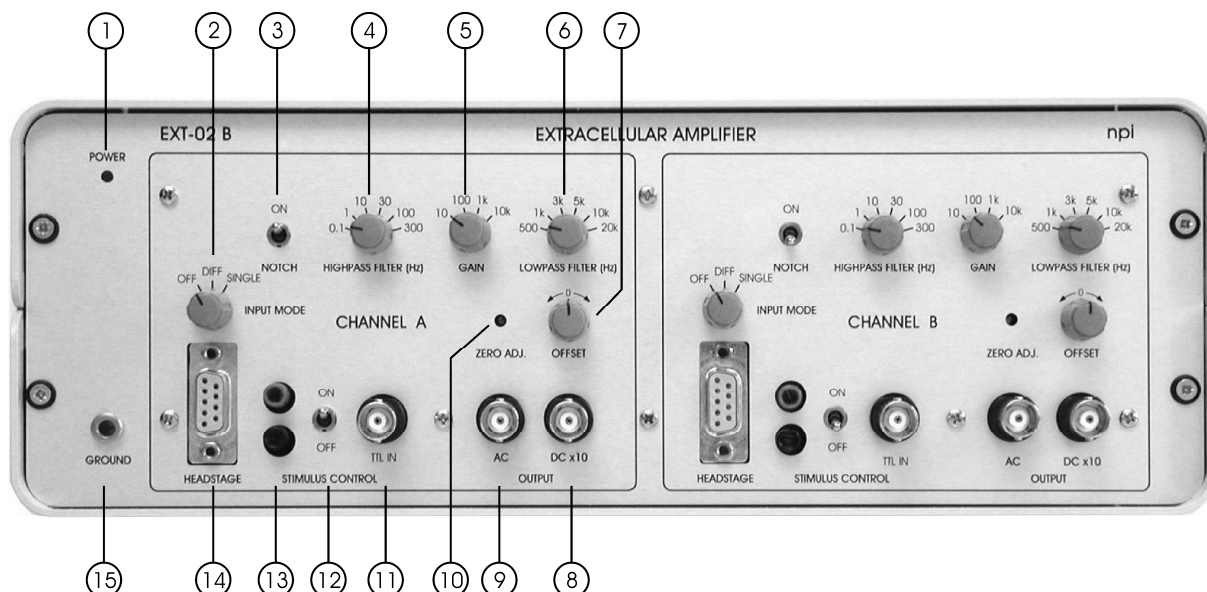
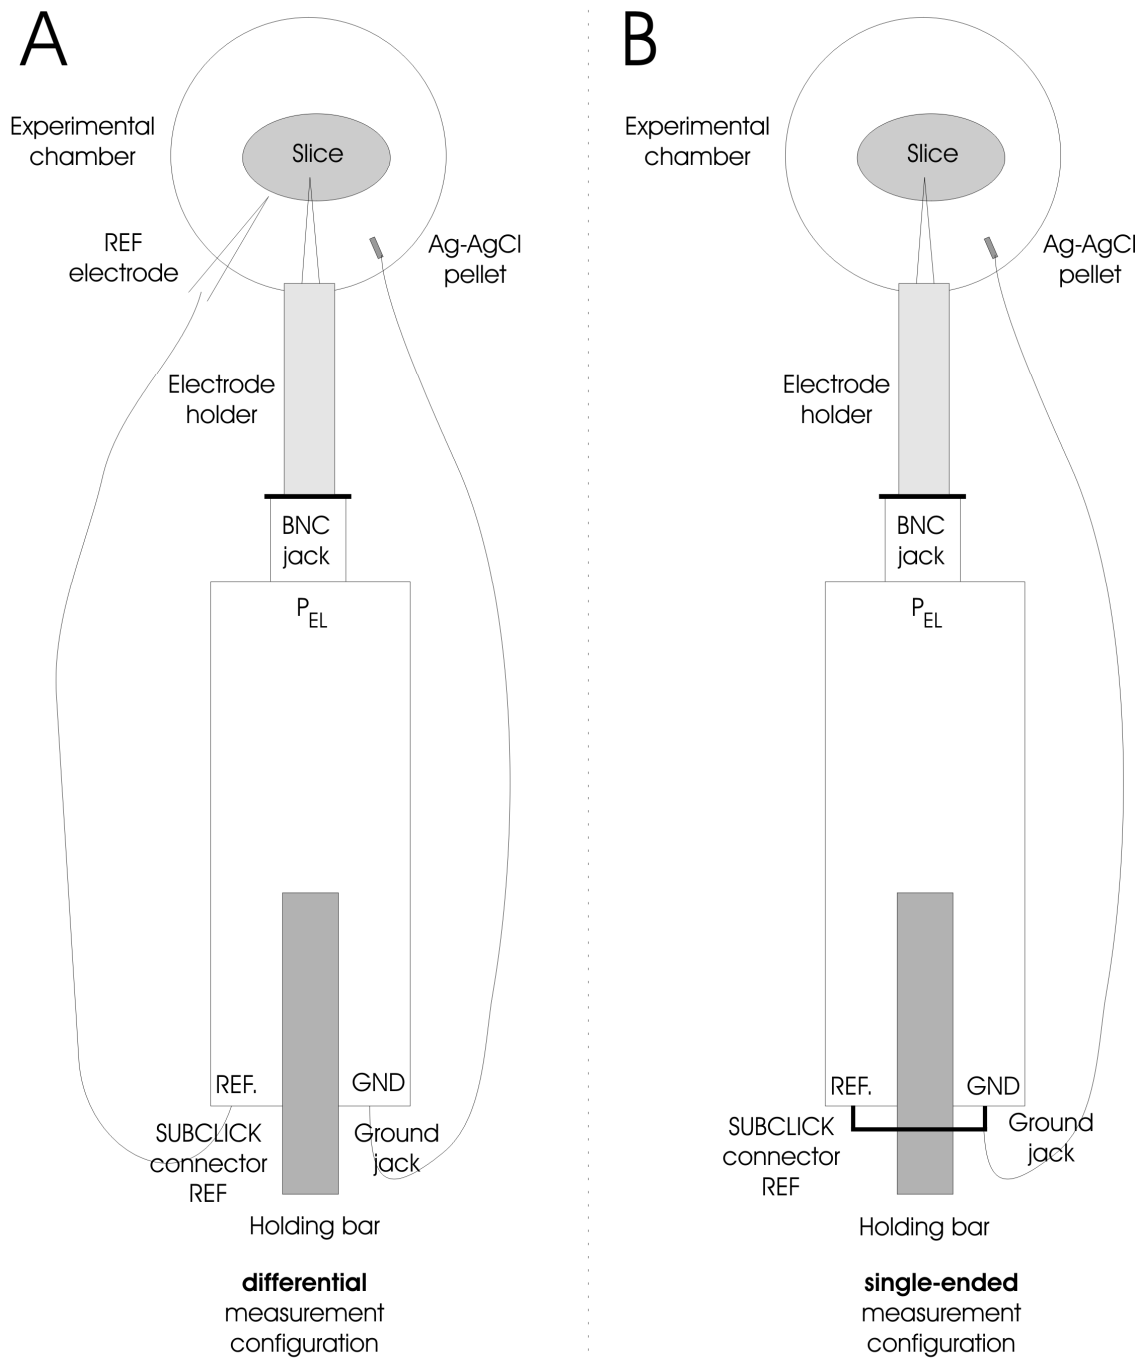

Figure 1: EXT-02 B front panel view
Figure 4: headstage connections, A: differential measurement, B: single-ended measurement
In the following description of the front panel elements, each element has a number that is related to that in Figure 1. The number is followed by the name (in uppercase letters) written on the front panel and the type of the element (in lowercase letters). Then, a short description of the element is given. Since the front panel elements are identical for each channel A and B (with identical functions and labels) these elements are numbered and described only once (for channel A). Signal is the recorded signal, REF is the signal from the reference input of the headstage.
The EXT-02 B has a headstage which can be switched from recording mode to stimulation mode. This enables the researcher to record and to stimulate through the same electrode. Switching between recording and stimulation mode is achieved either by a TTL signal fed into TTL IN connector (#11, Figure 1) or by manually toggling a switch (#12, Figure 1).
In recording mode, the signal detected at the electrode is pre-amplified in the headstage and fed into the EXT-02 B for further amplification and filtering. In stimulation mode the preamplifier in the headstage is disconnected from the electrode and the stimulation line is connected to the electrode instead. The signal is fed into the stimulation line at the black and red input connectors at the front panel (see #13, Figure 1).
For differential measurements, both inputs are connected to electrodes using cables with grounded enclosure or electrode holders. + (PEL) is connected to the measuring electrode and – (REF.) to the reference electrode. The experimental chamber is grounded by an Ag-AgCl pellet (or an AGAR bridge) connected to GND of the headstage (see Figure 4).
**Important:** If differential measurement is not required (single-ended measurement configuration), the REF input must be connected to ground (GND at the headstage, see Figure 4) or the INPUT MODE switch (#2, Figure 1) must be set to SINGLE. The amplifier is in an undefined state, if the REF is left open, and can go into saturation making reliable measurements impossible.
**Hint:** The REF connector of the headstage can also be set to GND by setting the INPUT MODE switch (#2, Figure 1) to SINGLE.